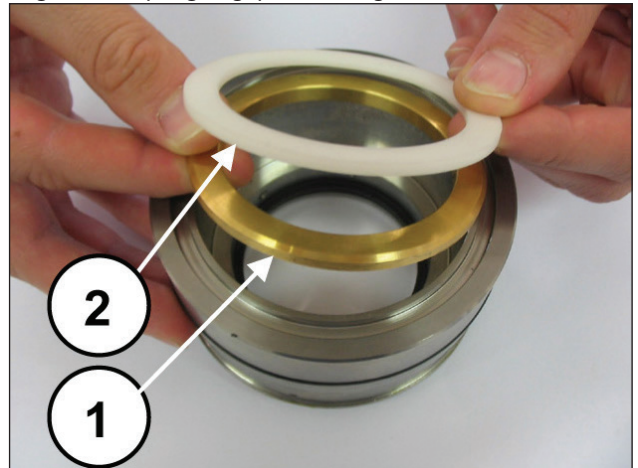
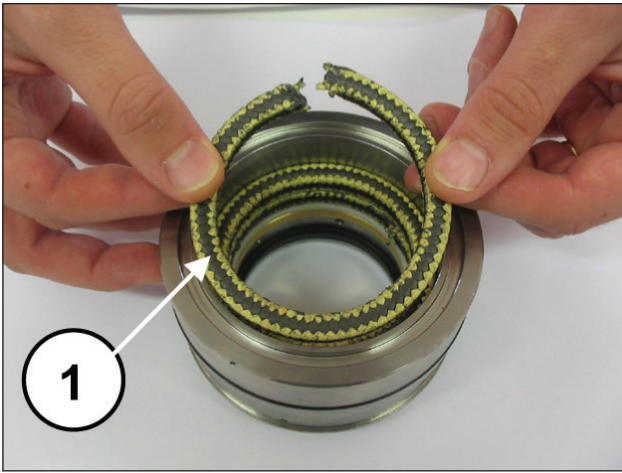
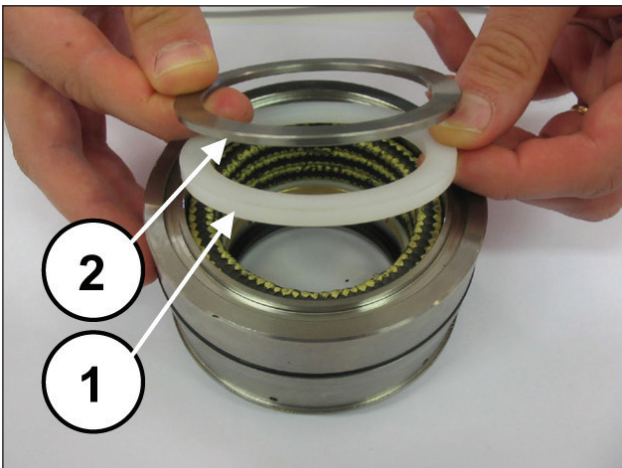

Fig. 170
Fig. 171
Fig. 172
Install the support ring and the back-up ring (pos. ①②, Fig. 170), the three packings, making sure the notches are at 120° from each other (pos. ①, Fig. 171), the packing scraper ring and the spring ring (pos. ①②, Fig. 172).